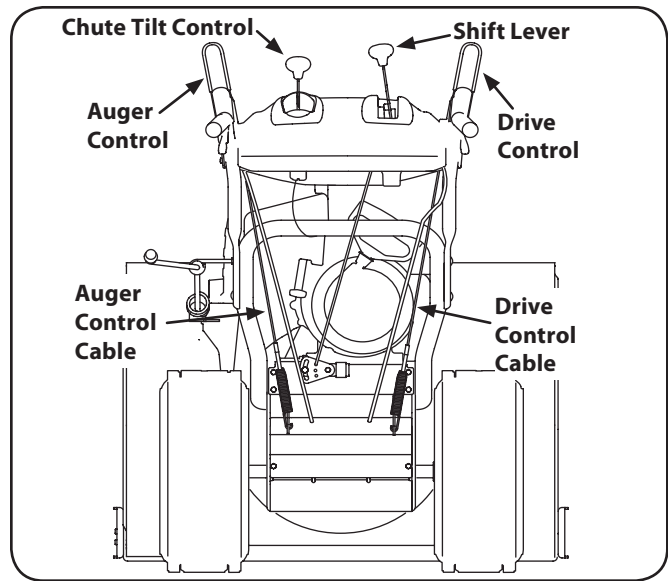

Figure 3-13
1. When the auger control is released and in the disengaged "up" position, the cable should have very little slack. It should NOT be tight. Refer to Figure 3-13.
1. With the engine turned off, move the shift lever into sixth (6) position. Refer to Figure 3-13.
1. From beneath the handle, pull downward on the appropriate cable and unhook the spring found on the end of the cable from its respective actuator bracket. Refer to Figures 3-13 and 3-14.